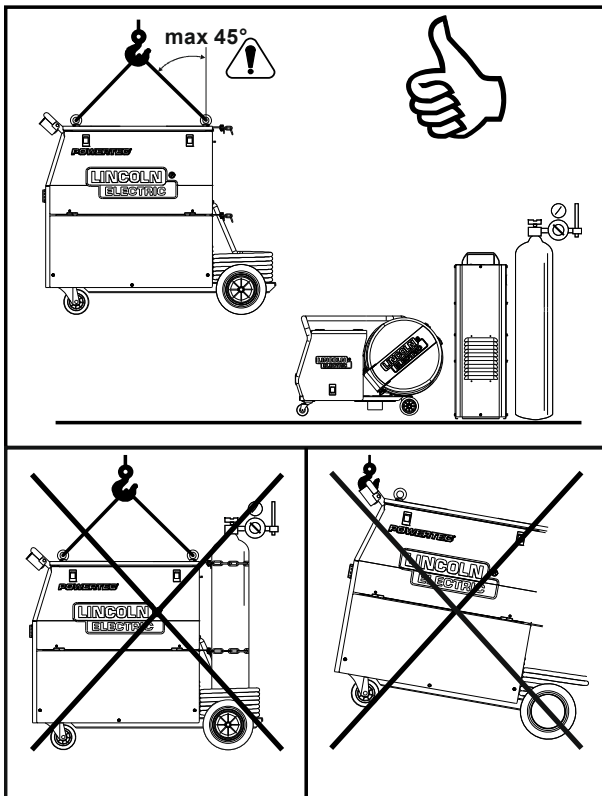

Figure 17.
To safely transport and lift **POWERTEC 305C PRO, 355C PRO & 425C PRO** (see the Figure 17):
- Screw down an eye bolt and apply load axially in 45 degree angle in accordance to the Figure 17.